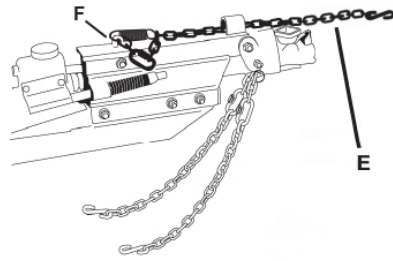

Figure 9
⚠ NEVER tow the trailer unless the emergency brake lever (F) is in the fully rearward and down position. (Figure 9) See decals also, for proper position of emergency brake lever for towing. The emergency brake chain (E) is attached to the emergency brake lever (F) on top of the hydraulic brake mechanism. When the emergency brake chain is pulled forcefully, the emergency brake lever will move forward and lock, activating the trailer brakes.